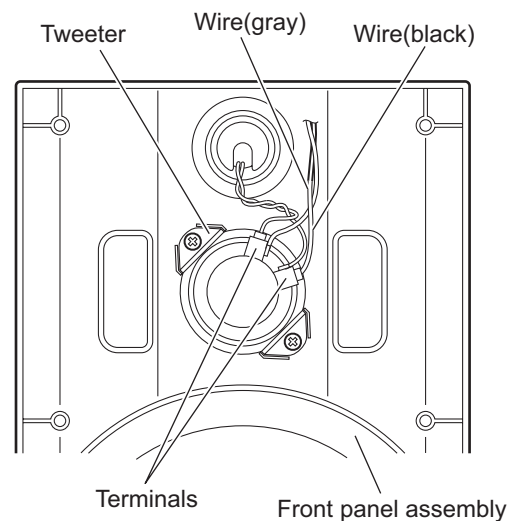

Fig.3
- (2) From the inside of the front panel assembly, disconnect the gray and black wires from the terminals of the tweeter. (See Fig.3.)